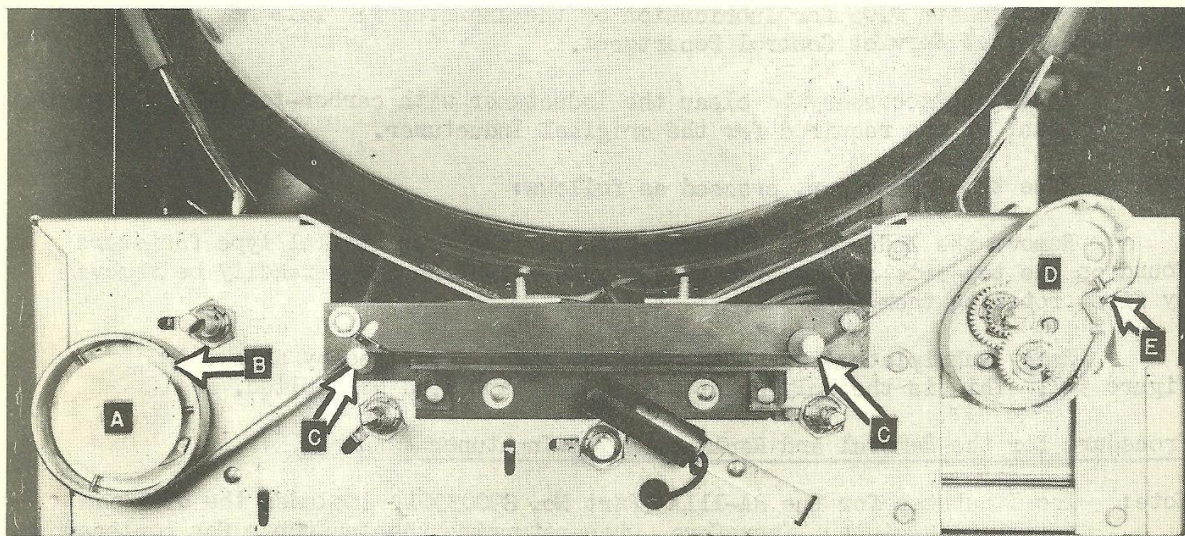

Figure 5-2. Dial Drive Assembly RA-111A
1. Disconnect tape from cam (D - Figure 5-2) by removing the clutch head screw and clamp (E).
2. Rotate drum (A - Figure 5-2) five complete turns counter-clockwise.
3. Insert loop end of dial tape into slot (B) of drum (A).
4. Holding drum (A), feed dial tape over left idler (C) and under right idler (C).
5. Release drum (A) and carefully allow dial tape to wind on it.
6. Insert clutch-head screw (E) through clamp and then through slotted end of dial tape.
7. Adjust dial tape so that junction of colored and uncolored portion of tape lies directly underneath right idler (C).
8. Tighten clutch-head screw (E).
9. Tune in an FM station near 100 mc. If the dial marker is not closer than ± 0.5 mc from the assigned frequency of the station selected, the tuning control should be rotated fully counter-clockwise, clutch-head screw (E) loosened slightly, and the slotted end of the dial tape slid the necessary distance in the proper direction; then tighten clutch-head screw (E).